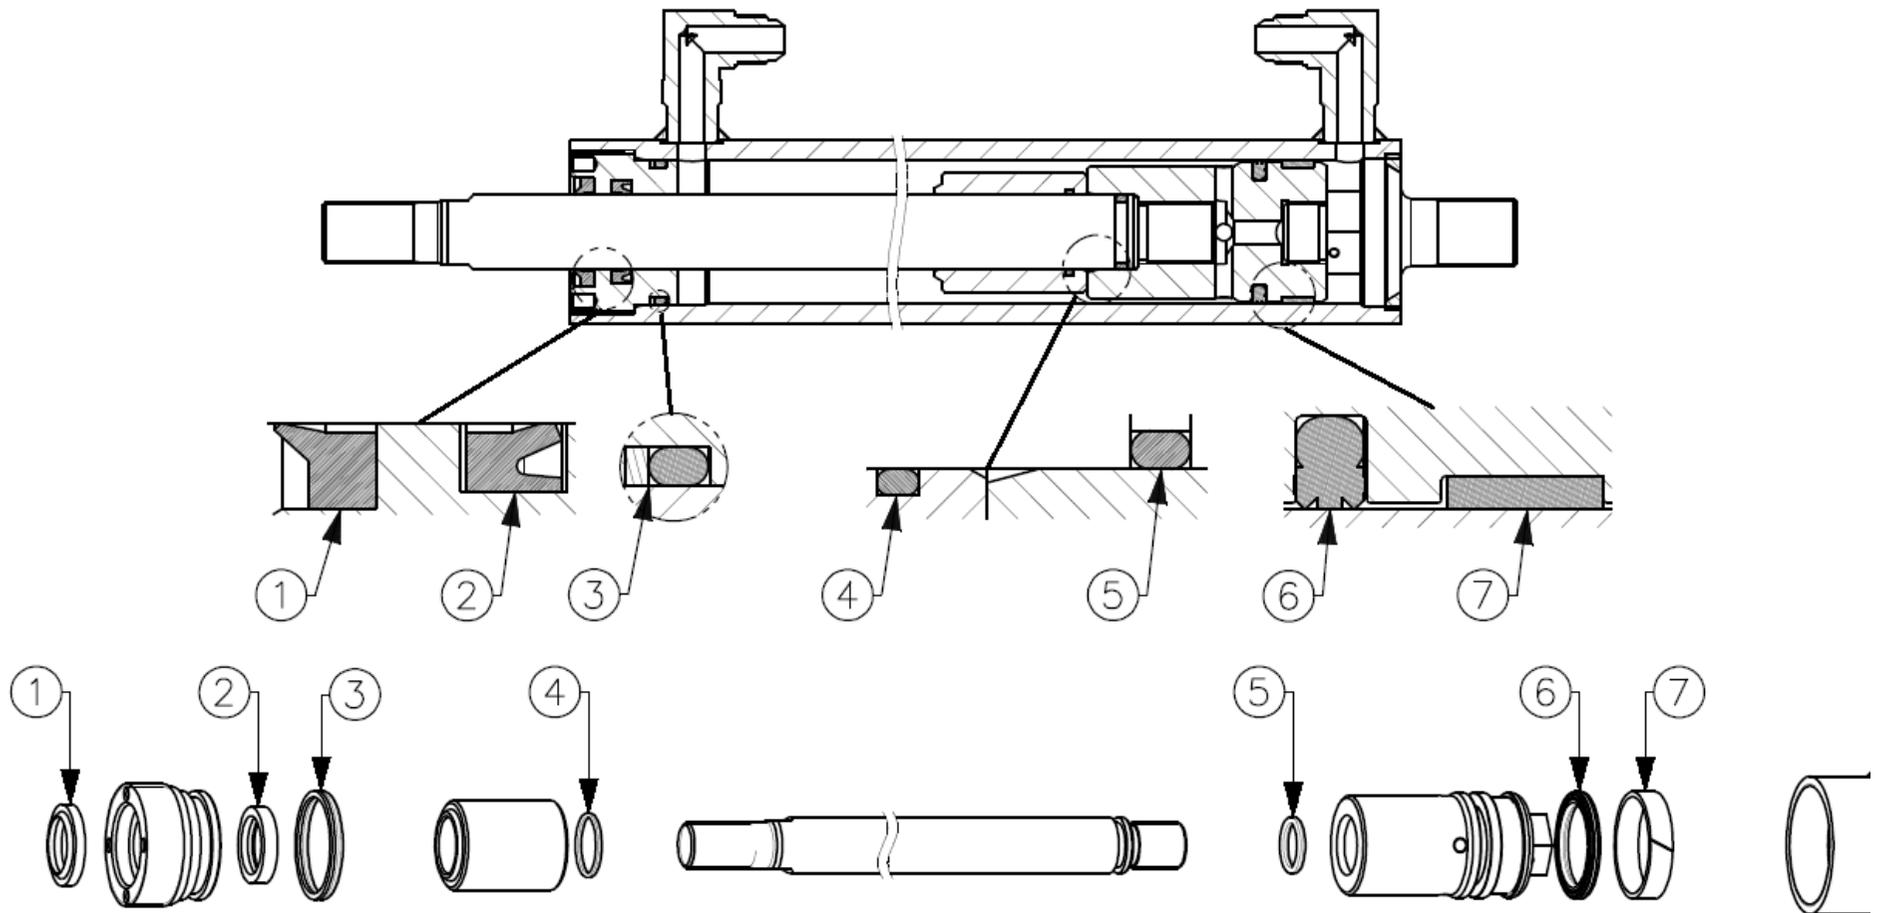

Fig. 041
7.6.3. Place the seals as shown in Fig. 041.